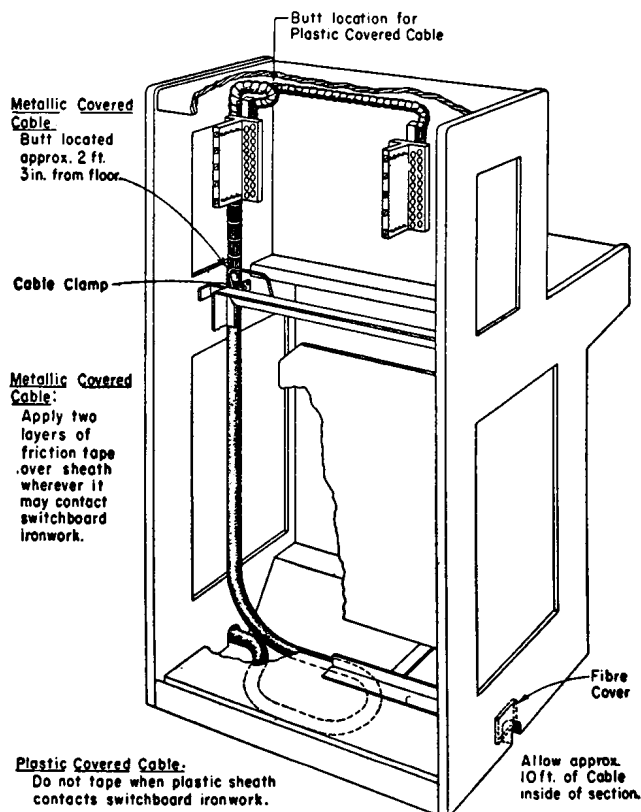

Fig. 7—Cable Entering Left Side—No. 551A PBX
3.21 Run the cable leaving sufficient length at the ends for terminating. See Figs. 7, 8, 9, 10, 11, or 12 for method of entering cable at the PBX.
3.23 Form, fan, and sew the end of the cable for connection at the PBX as shown in Figs. 13, 14, 15, 16, or 17 and Section 461-453-210. With the use of plastic covered cable, place the cable butt as close as possible to where fanning starts in the PBX. Place the location of cable butt in PBX as indicated in Figs. 7, 9, 11, or 12, depending on the type of cable sheath.